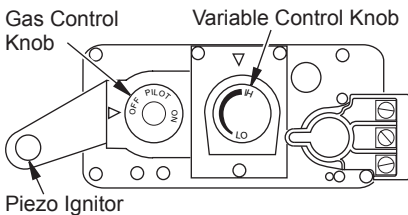

Figure 45 - Control Valve
- Turn gas control knob counterclockwise  to PILOT (see Figure 45).
- Push in gas control knob all the way and hold. Immediately light the pilot by repeatedly depressing the piezo spark ignitor until a flame appears. Continue to hold for about one (1) minute after the pilot is lit. Release gas control knob and it will pop back. Pilot should remain lit. If it goes out, repeat steps 5 through 8.